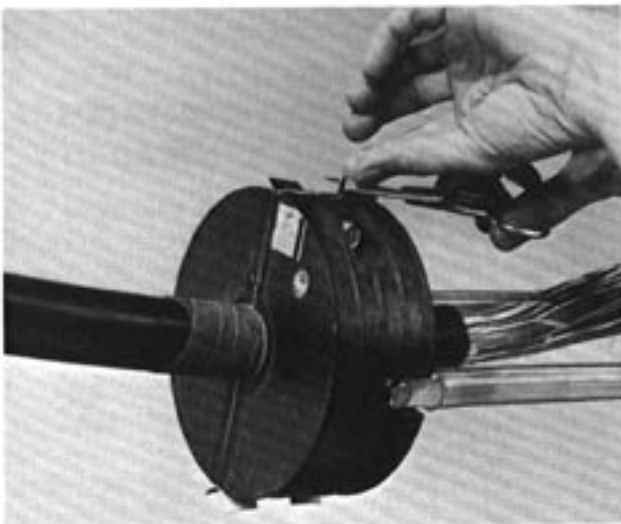

FIGURE 25 - TRIMMING THE LOCK-TAPE™ SEALANT
8.08 When End Plates are completely together, trim the excess LOCK-TAPE Sealant with snips to approximately 1/4" (.62 cm) of the End Plate. Do not pull the tape when trimming (Figure 25).